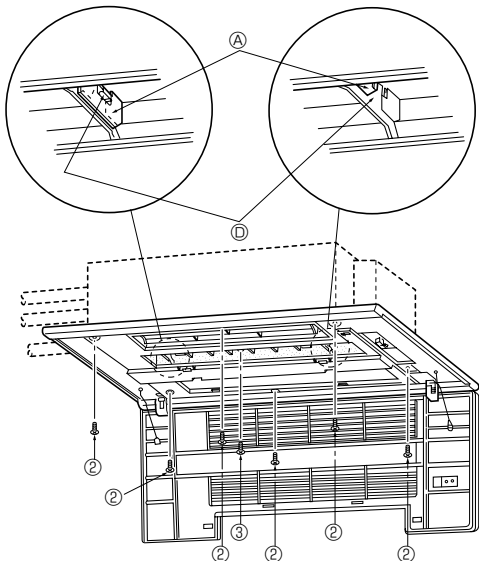
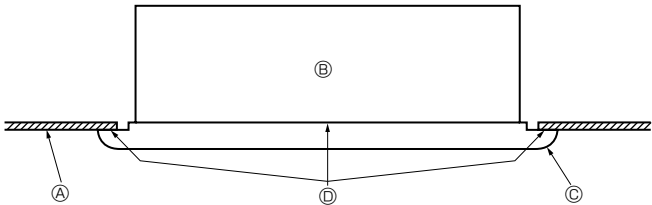

Fig. 5-5
Fig. 5-6
- Adjust the front panel so that it fits properly in the angle between the ceiling and the wall, and install the securing bolts ② (supplied with this grille) in their four places at left and right, leaving them slightly loose. (Fig. 5-5)
- Next tighten the securing bolts ② and securing screws ③ in the centre three places.
- Finally tighten the securing bolts ② in the four places at left and right.
- At this point, make sure there are no gaps between the indoor unit and the front panel, and between the front panel and the ceiling surface. If there are gaps, the wind may come in and it may cause water to drip (Fig. 5-6).
- \* Tighten the securing bolts ② and securing screws ③ completely.
- [Fig. 5-5]
5.4. Checks after installing (Fig. 5-6)